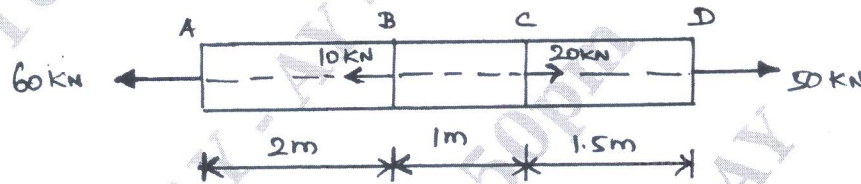

Fig.Q1(a)
- b. A steel rod ABCD 4.5m long and 25mm in diameter is subjected to the forces as shown in Fig.Q1(a). If the value of young's modulus for the steel is 200GPa determine its deformation.